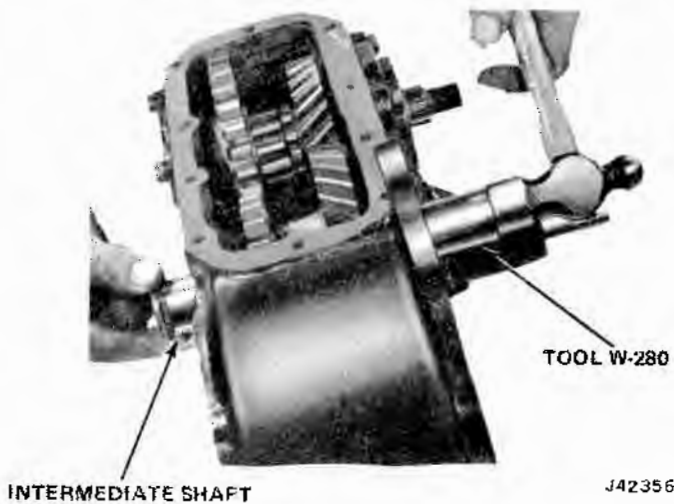

Fig. 8-7 Intermediate Shaft Needle Bearing Aligner
- (2) Remove case bottom cover.
- (3) Remove intermediate shaft lock plate bolt, lockwasher, and lock plate.
- (4) Drive intermediate shaft out of rear of case using Arbor Tool W-280 (fig. 8-7).